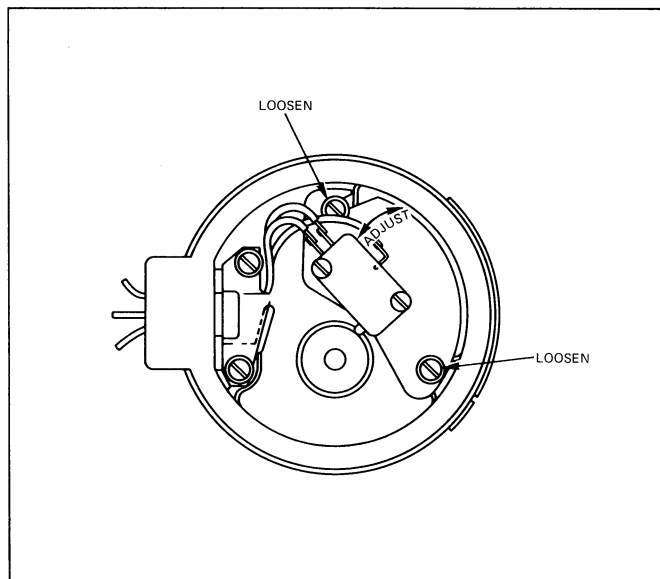

Figure 3. Switch Adjustment.
- b. Slightly loosen the two screws securing the switch plate. See Figure 3.
2. See Figure 3 for switch wires. The normally closed (N.C.) terminal makes contact with the common terminal during operation and opens during reset. The normally open (N.O.) terminal makes contact only during reset.